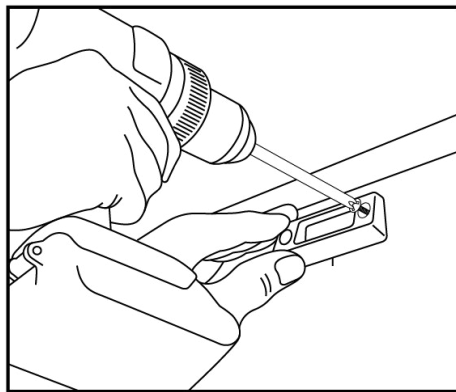

Fig.26
2. Position the hanger blocks using the marks as a center guide with the wide side down and a 1/8" gap between the hanger block and awning hanger rail. Use a Phillips screwdriver or drill bit to secure the hanger blocks with 1-1/4" self-tapping screws. (Fig.26).